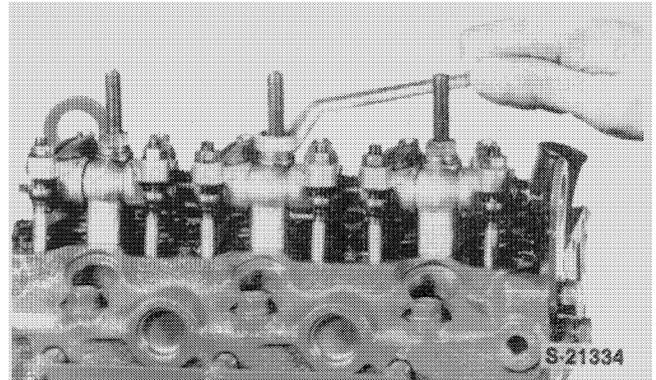

FIGURE 1-24
12. Remove the valve rocker shaft as an assembly, Figure 1-24.